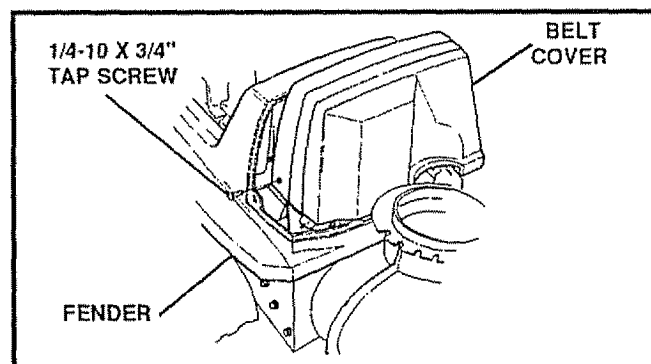

FIG. 23
- Remove the belt cover (See Fig. 23).
- Remove the belt cover (See Fig. 23)